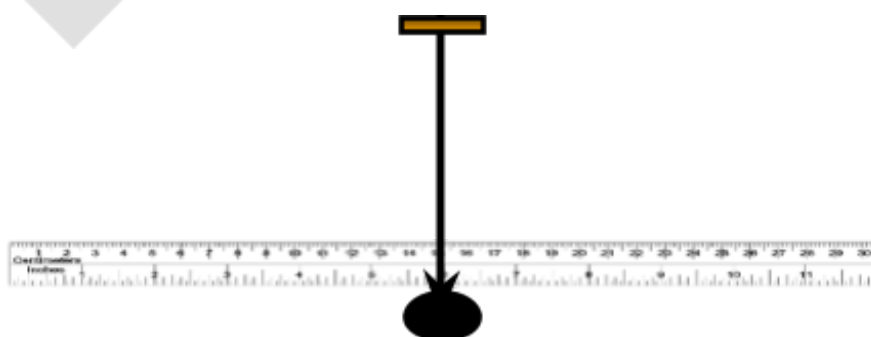

Fig. 5.1: Simple pendulum
Theory and formula used: An ideal simple pendulum consists of a heavy point mass suspended from a rigid support by a weightless, inextensible and perfectly elastic string. A practical simple pendulum consists of a heavy metallic bob suspended by a long silk thread from a rigid support as shown in the Fig. 5.1. A graduated scale is fixed slightly above the bob and the bob oscillates parallel to this scale. When the bob oscillates, its amplitude goes on gradually decreasing due to viscous drag of the air and finally the pendulum stops after oscillating through a number of vibration.
1. Take a thread of length 150 cm and attach a brass bob to the lower end of this thread and finally set up the pendulum with a scale as shown in Figure 5.1.